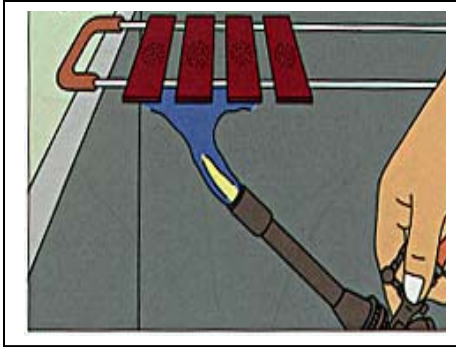

Fig. 15
- Heat the slide gently by passing the flame underneath the slide, until vapour rises (Fig 15).